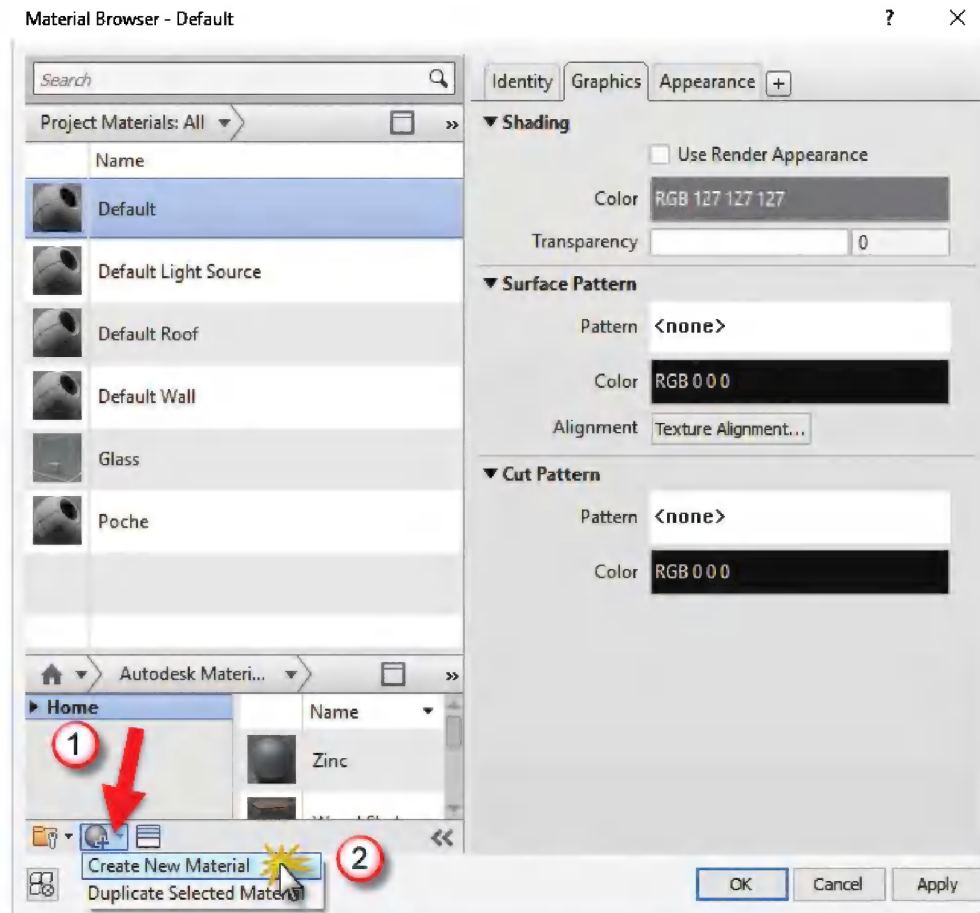

FIGURE 15-4.7 Materials for the Box Family, not the Box Project
Notice the *Family* has a limited number of *Materials* loaded; see Figure 15-4.7. The following sequence of steps will show how to create a new *Material* and define it.
17. Click the **Create New Material** icon in the lower left corner; see arrow in Figure 15-4.7.